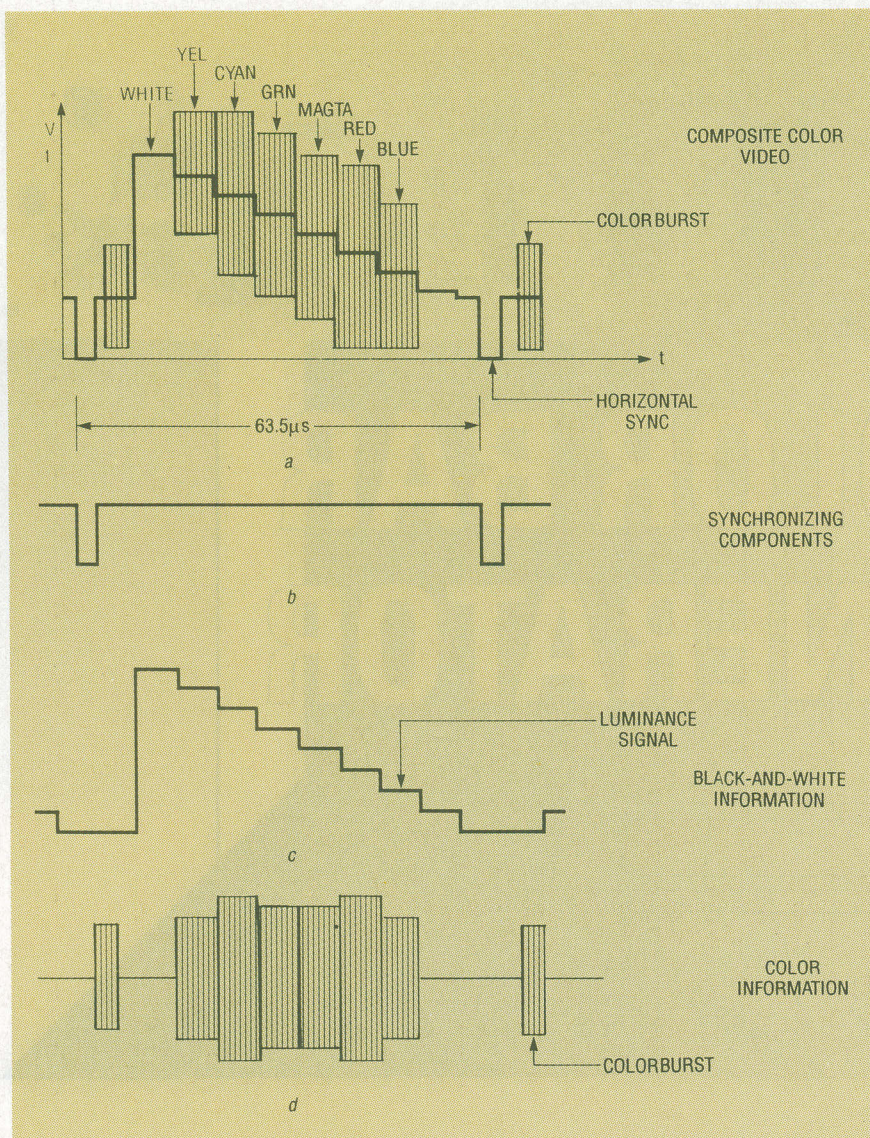

FIG. 1—A COMPOSITE VIDEO SIGNAL (a) includes sync pulses (b), black-and-white information (c), and the colorburst signal (d).
A typical NTSC composite color video signal is shown in Fig. 1-a. (NTSC is the National Television Systems Committee, who has set the standards for color encoding and decoding systems in the U.S. since 1953.) The picture on a color TV is formed by three electron beams of varying amplitudes and phases: red, blue, and green. Each of those beams are scanned horizontally and ver-
The composite video signal is made up of three basic components: the scan control information called the synchronizing pulses (Fig. 1-b), the luminance signal, which is the brightness information and is often referred to as the Y signal (Fig. 1-c), and the color information called the chrominance signal (Fig. 1-d). Let's briefly discuss each type of video information.
Black and white information is contained in the Y or luminance signal, which determines the instantaneous brightness of the electron beams as they scan over the screen. In fact, it is all that is used for the single electron beam in a black-and-white TV set. A negative-going video detector detects a luminance signal in which the negative signal extremes correspond to bright areas of the picture. The waveform shown in Fig. 1-c would, therefore, produce vertical bars of decreasing brightness from left to right. Note that the output is black during retrace so the electron beams will not be seen.
- IC6 pin 2—TTL-level composite-sync signal (Fig. 1-b)